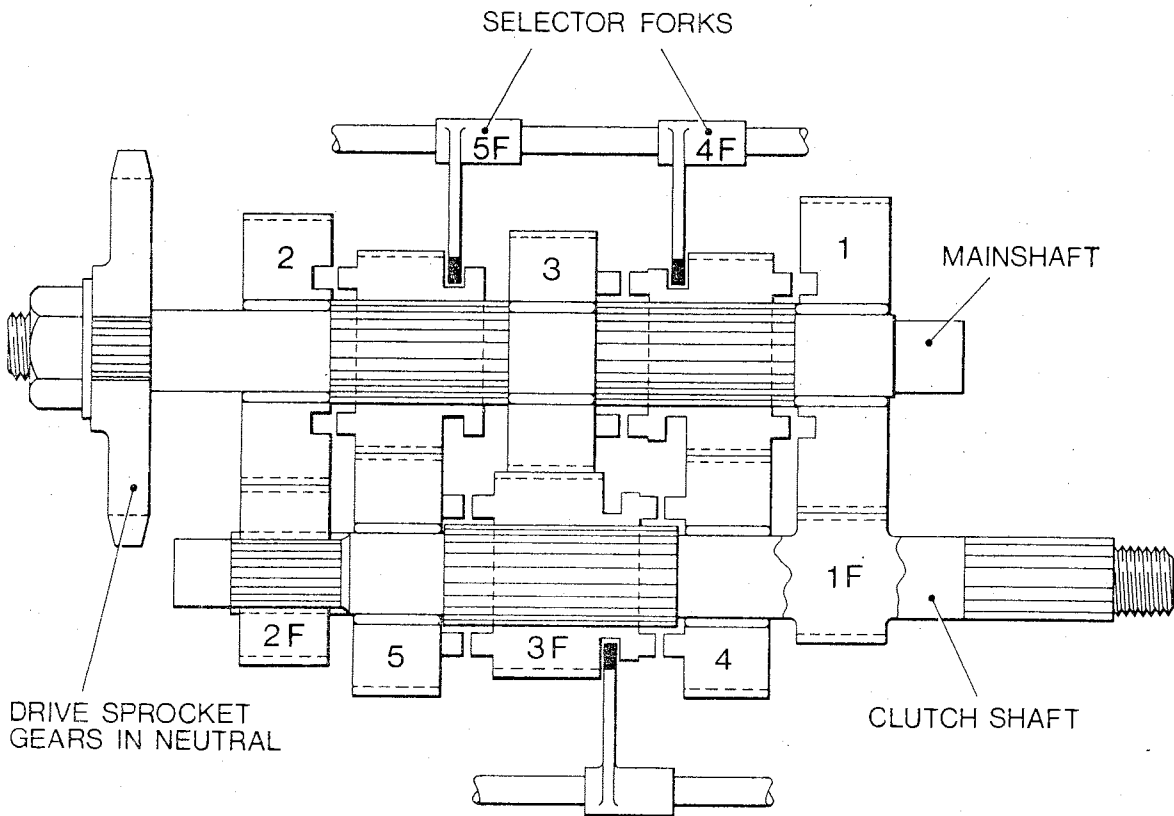

Figure 4.2 - Gear Train
2. The main shaft also has 5 gears mounted to it in the same relationship as the clutch shaft, 1st 2nd and 3rd are mounted on bearings and 4th and 5th are splined to the shaft. 4th and 5th gears have recesses to accept the selector forks. By sliding 5th gear to the left 2nd gear will be engaged and 4th moves left for 3rd and right for 1st. The main shaft is also mounted on two ball bearings pressed into the crankcase halves. The LH end of the shaft protrudes through the crankcase as a plain shaft and the kick start idler gear with an internal bush fits on it. The RH side of the shaft projects through the crankcase and the chain sprocket is splined onto it and held rigidly by a nut. (See Figure 4.2).